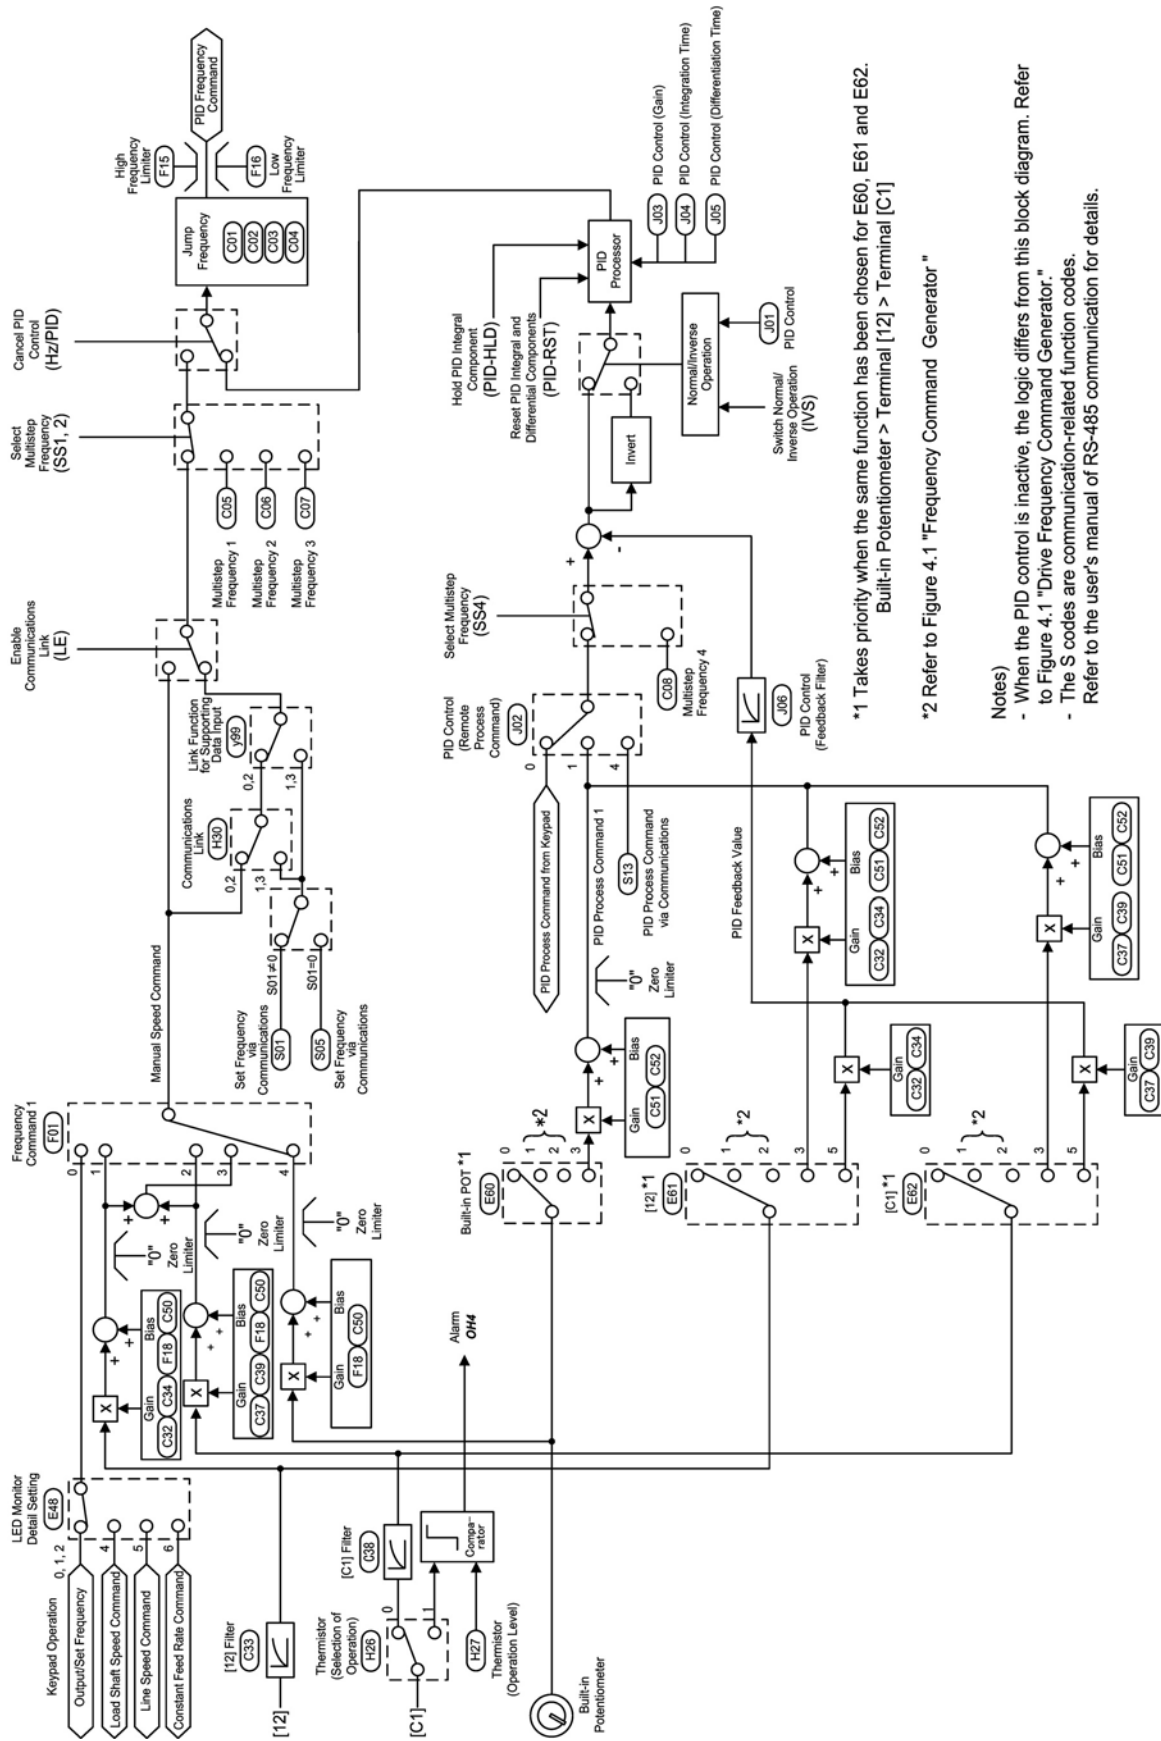

Figure 4.7 PID Frequency Command Generator
*2 Refer to Figure 4.7 "PID Frequency Command Decoder" for details.
The block diagram shown in Figure 4.7 shows the PID frequency command generator that becomes active when the PID control is enabled (J01= 1 or 2). The logic shown generates the final frequency command according to the PID process command given by various means of setting and feedback, or frequency settings as a speed command given manually, and various means of switching.